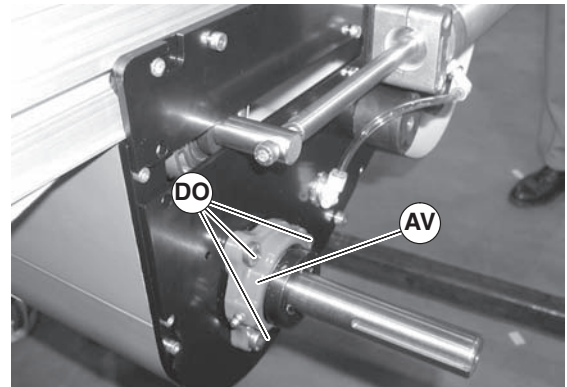

Figure 107
4. Remove the three (3) mounting screws (Figure 107, item DO).
5. Remove and replace bearing housing assembly (Figure 107, item AV).